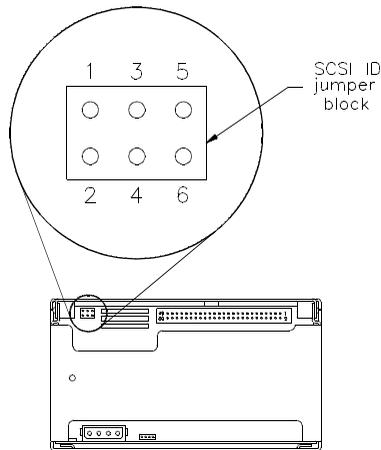

Figure 1 SCSI ID jumper block
1. Locate the SCSI ID jumper block on the back of the tape drive, as shown in Figure 1.